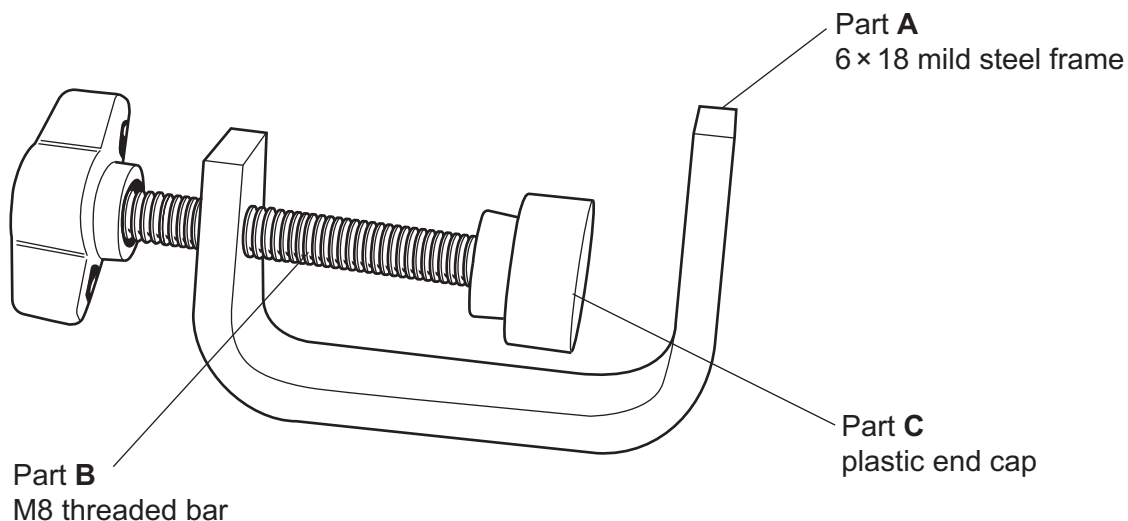

Fig. 3.1
- 3 Fig. 3.1 gives details of a metal cramp which is to be made in a school workshop.